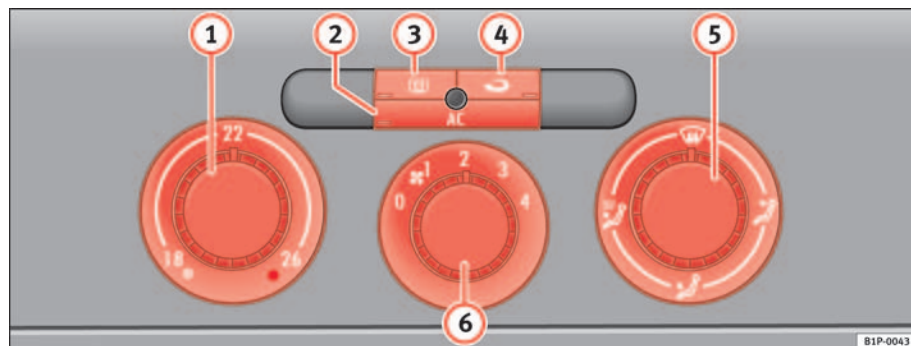

Fig. 107 On the dash panel: Climatic controls
- Using the controls ⇒ fig. 107 (1) and (5) and the control (6) you can set the temperature, air distribution and the airflow.
- To switch a function on or off, press the appropriate button (2), (3) or (4). When the function is activated, the display window in the lower corner of the button is lit.
- (1) Temperature selector ⇒ page 143
- (2) Button (AC) – Heating, ventilation and air-conditioning system on/off ⇒ page 143
- (3) Button (☐) – Rear window heating. The heating will be switched off automatically approximately 20 minutes after switching on. It can also be switched off beforehand by pushing the button.
- (4) Button (↻) – Air recirculation mode ⇒ page 144
- (5) Air distribution control ⇒ page 143
- (6) Blower switch. There are four speed settings for the airflow. The airflow should always be set at the lowest speed when driving slowly.
- Switch on the air conditioner using the button ⇒ page 142, fig. 107 .